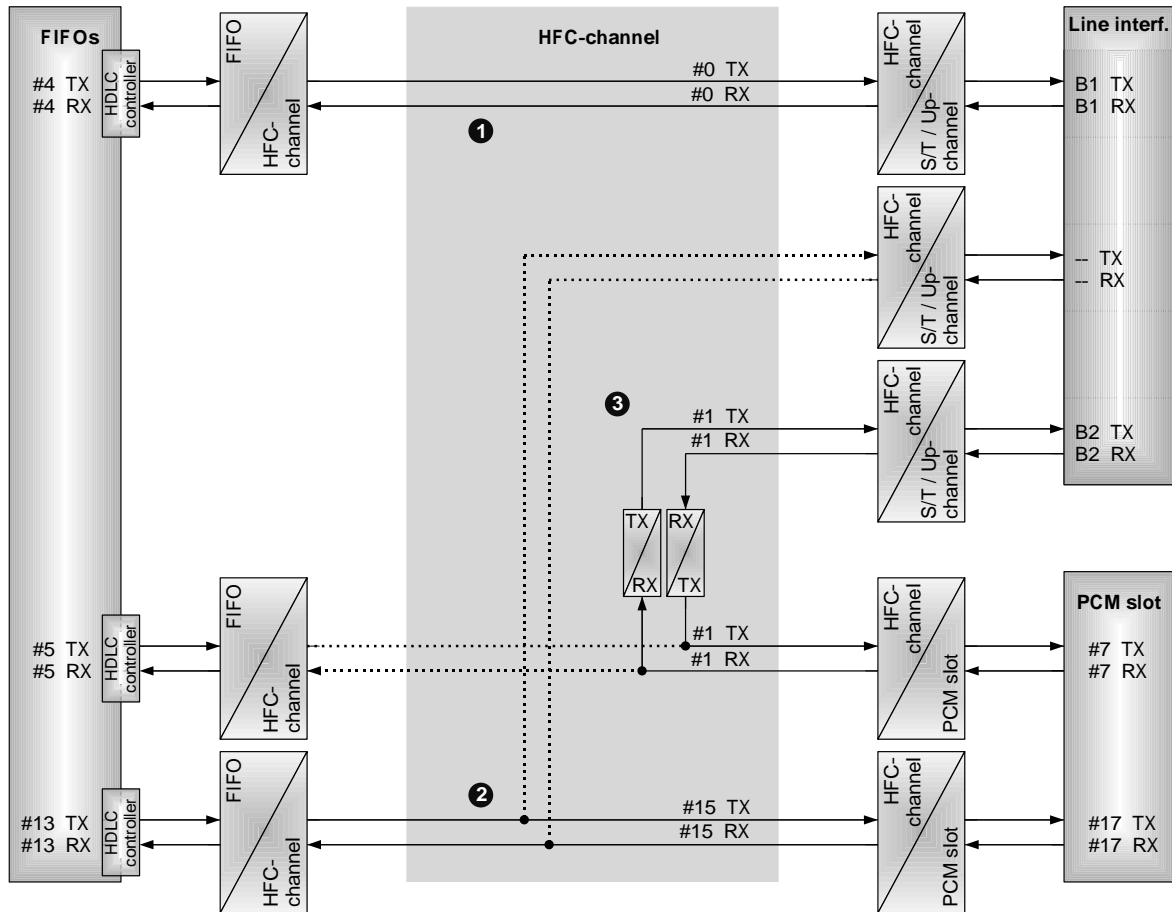

Figure 3.8: CSM example
The example for a *Channel Select Mode* configuration in Figure 3.8 shows three bidirectional connections (❶ FIFO-to-ST/Up, ❷ FIFO-to-PCM and ❸ PCM-to-ST/Up). The black lines illustrate data paths, whereas the dotted lines symbolize blocked resources. These are not used for data transmission, but they are necessary to enable the settings.